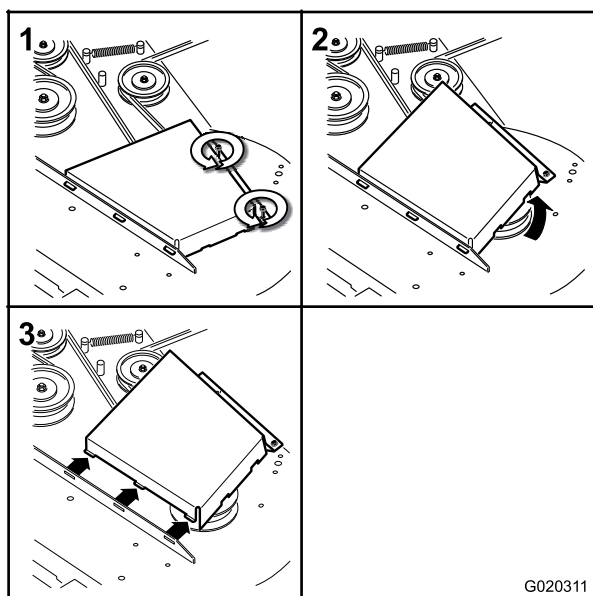

**Figure 67**
- Loosen the leveling adjust locking nuts (item 3) on all four corners so that the deck is sitting securely on all four blocks (Figure 66 and Figure 67).
- Tighten the four leveling adjust locking nuts (Figure 66 and Figure 67).
- Ensure that the deck hangers are all the way down (at the top of the slot) and the deck lift foot lever is pushed back against the stop (Figure 66 and Figure 67).